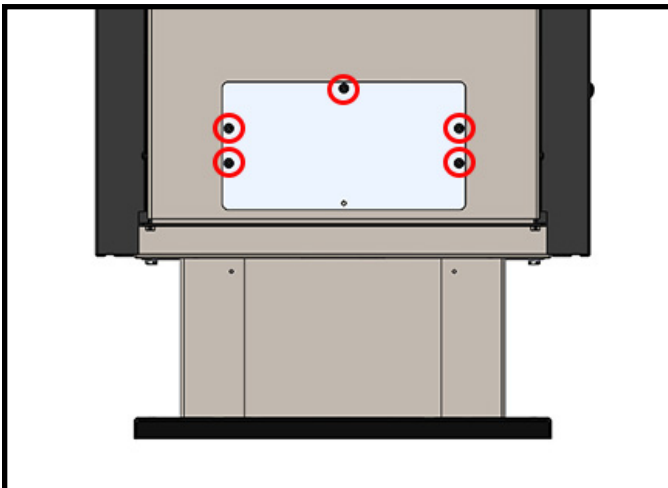

Figure 15: Remove the cover plate.
1. Remove the 5 screws and cover plate from the rear shield on the stove (Figure 15).